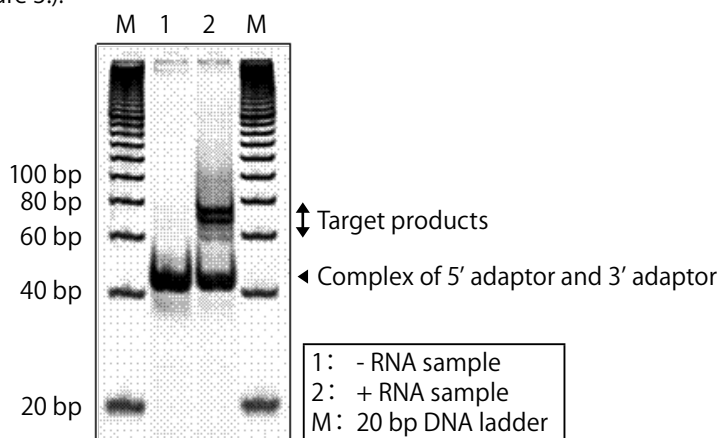

Figure 3. Result of reactions using 10 kinds of RNA samples (16 nt - 30 nt) (detected by the FMBIO II Multi-View).
7) Analyze 5 μl of the reaction on a 10% non-denaturing polyacrylamide gel (See Figure 3.).
If the amount of DNA applied to a well is large or electrophoresis is carried out rapidly, the DNA bands may smear at the well edges as seen in Figure 3. In this case, reduce the amount of DNA loaded in the well, or use a larger well. Alternatively, results may be improved by performing electrophoresis slowly. In addition, be careful not to include the lower band (complex of adaptors) in gel slice. When the edges of the band are smeared, we recommend omitting both ends when excising the gel slice and performing gel extraction.